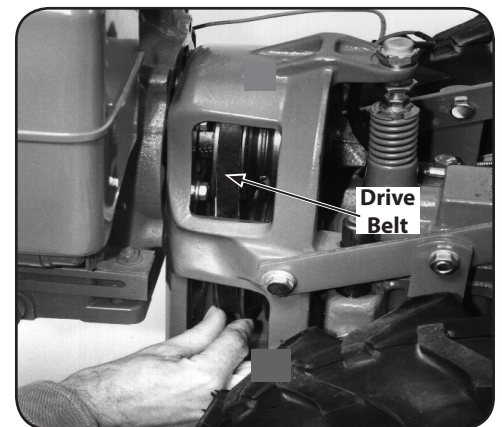

Figure 5-5
12. Move the top half of the belt into the HIGH Range groove, the groove closest to the engine, on the top pulley. See Figure 5-5.